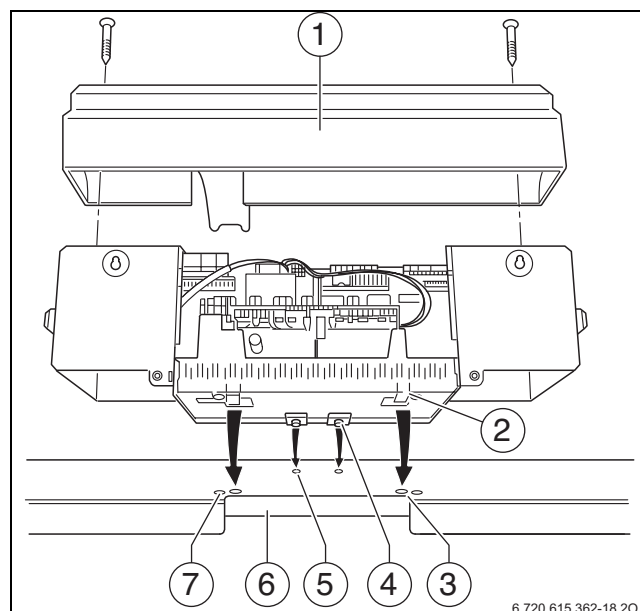

Fig. 21 Control unit
Fig. 21 shows the control unit and the front cover [1] from the back.
- ▶ Refit the cover (→ Fig. 21, page 21) to the control unit.
- ▶ Fix the control unit cover with the screws supplied (Fig. 21, page 21).